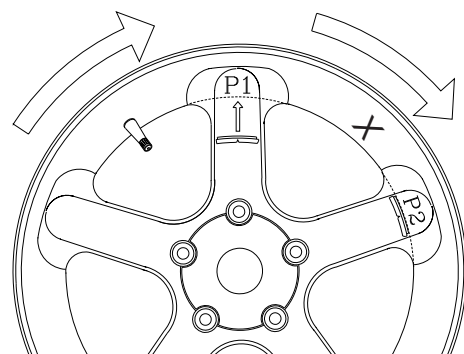

Figure 36
8. The display will read "**P -2**" on its left window and the balance weight amount in right window. Place the weight amount displayed at "position 2" behind the spoke, then rotate the wheel to locate position 1. See Figure 36.